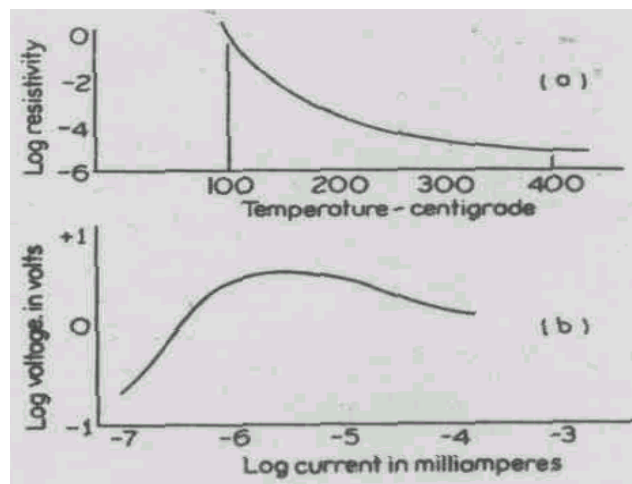

Fig. 2.1
The electrical resistance of materials generally increases with increase of temperature. This increase is usually very small ( $< 1\%$  degree C). The discovery of semiconducting materials and the techniques used in modifying their electrical properties have resulted in materials for which the variation in electrical resistance with temperature is large (as high as 3 to 10%). Such devices have very many applications in measurement and control of temperatures of objects. Thermistors are semiconductor devices, with a high (usually negative) temperature coefficient of resistance. Some thermistors have their room temperature resistance decrease 5% per degree rise in temperature. This high degree of sensitivity to temperature change, makes it possible to use the thermistor in temperature measurement and control etc. Thermistors are generally used in the temperature range of  $-100^{\circ}\text{C}$  to  $300^{\circ}\text{C}$ . Thermistor have generally three important characteristics (Fig 2.1) which are extremely useful in measurement & control applications.
- (i) Resistance vs Temp, characteristics (Fig.2.1 (a))
- (ii) Voltage vs Current characteristics (Fig.2.1 (b))